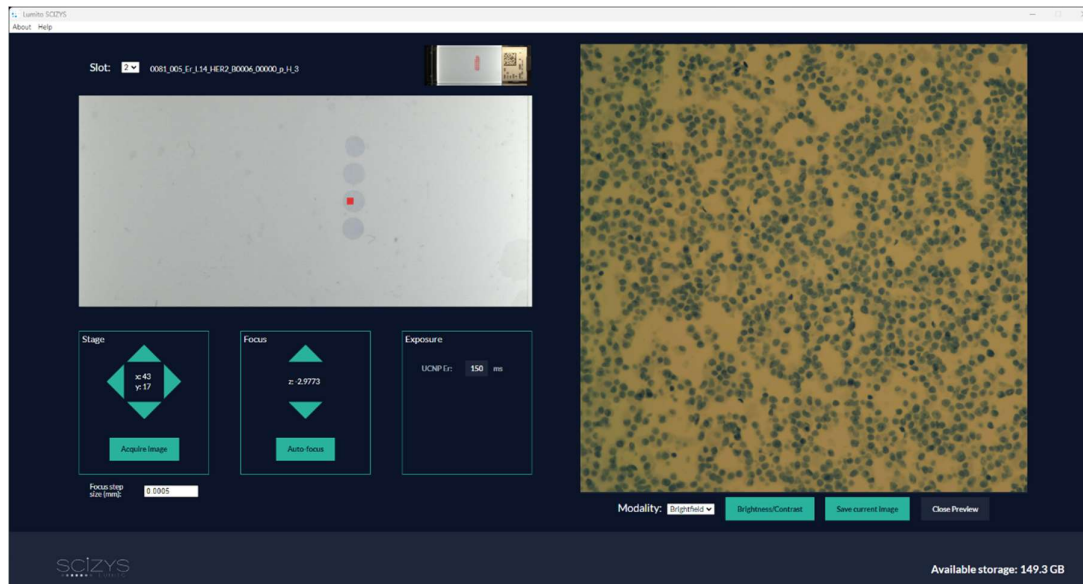

Figure 7-2 The Preview mode of SCIZYS S1.
1. Use the drop-down menu at the top left to select which slot to investigate (*Figure 7-2*).